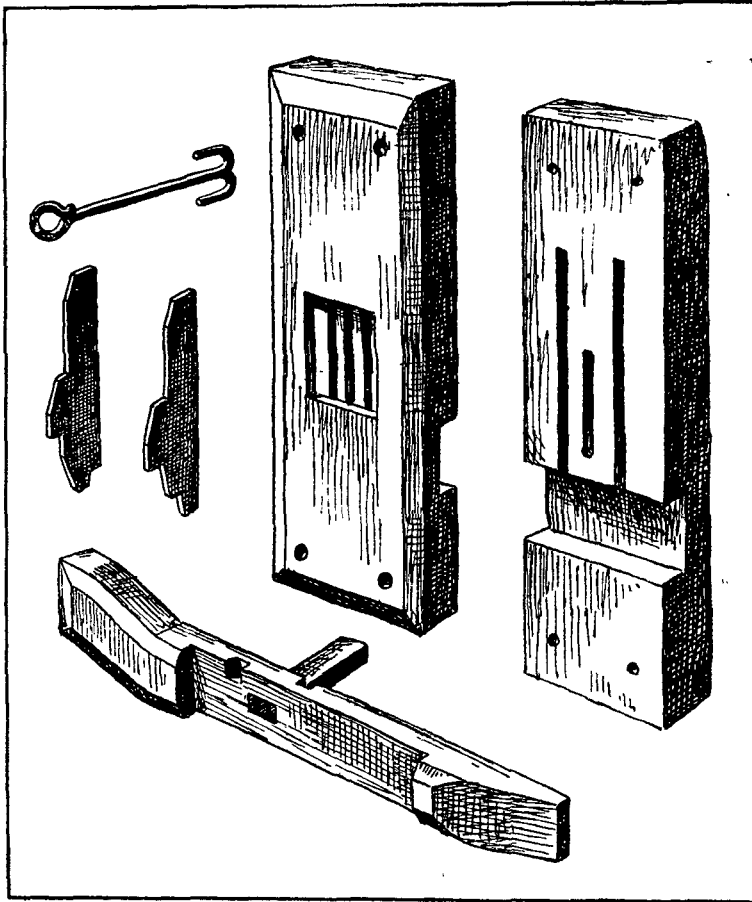

Fig. 3. Wooden Lock from China.
*Chinese Lock, No. 1.*—This lock (fig. 3) consists, in addition to the key, of four parts, three of which are movable and one fixed. The